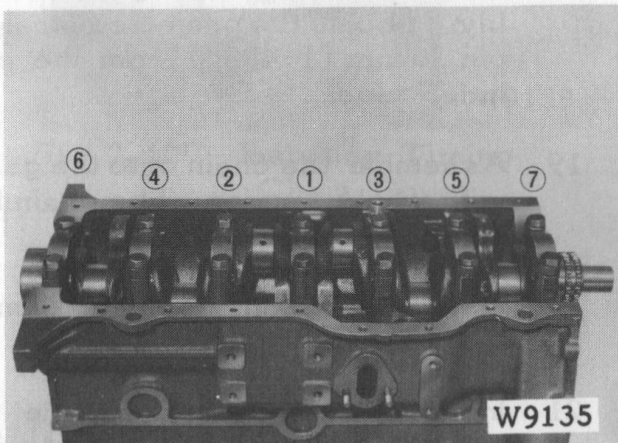

Fig. 2-92 Tightening Sequence
11. Install the crankshaft bearing caps onto the cylinder block adhering the marks and numbers in each cap, then tighten the cap bolts alternately to 9.9 to 10.9 m-k_g or 71.3 to 78.5 ft-lb as illustrated sequence in figure 2-92. Always check if the crankshaft rotates smoothly, and the crankshaft thrust clearance is 0.05 to 0.25 mm or 0.002 to 0.010".